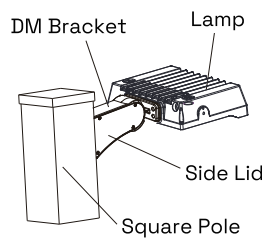

Fig 5.2
Step 2: Pu the connected wire into the junction box, then cover the junction box Figure 5.2